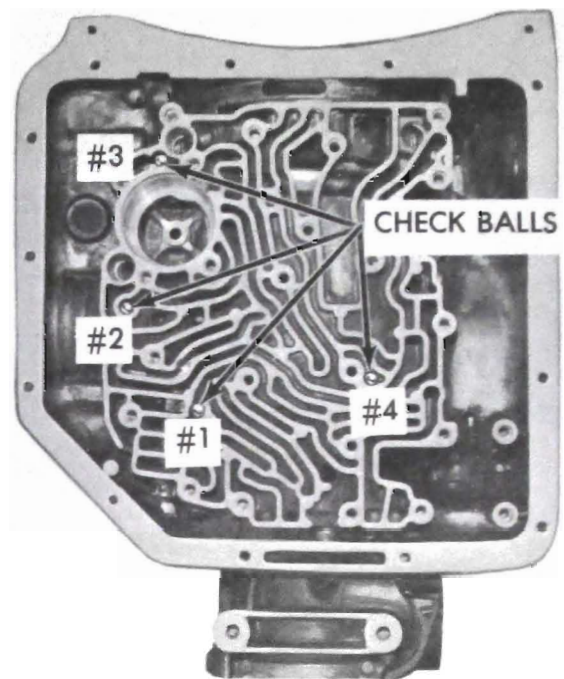

Figure 75-81
1. Remove four check balls from correct passages in case face. See Figure 75-81.